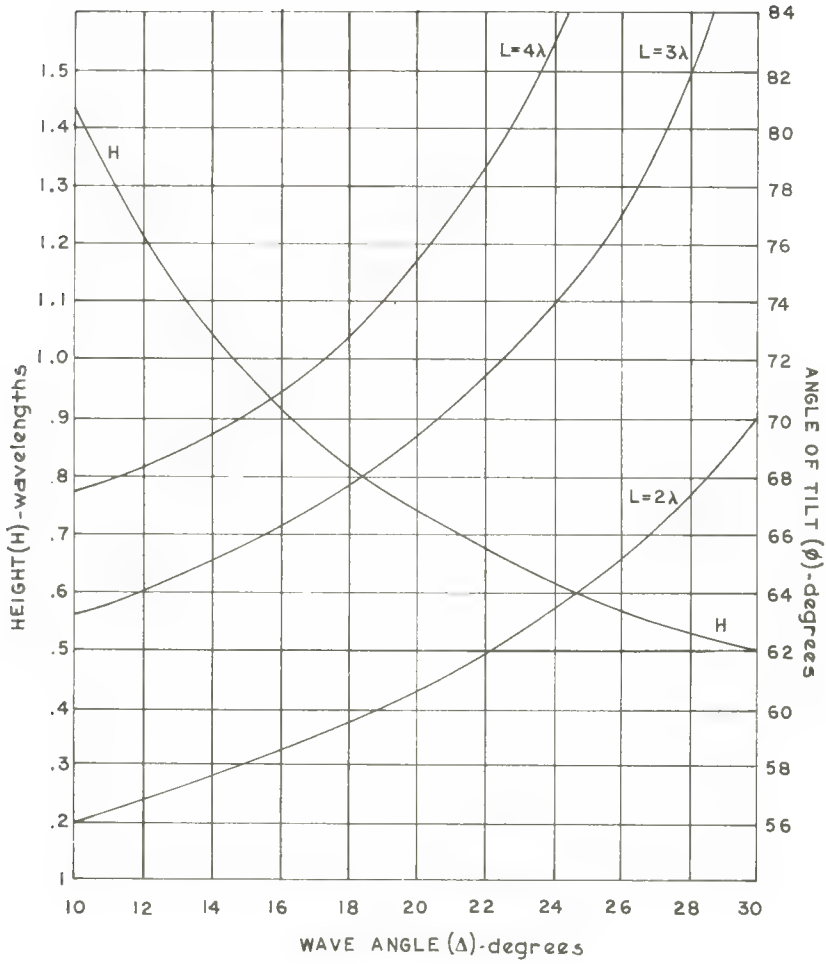

Figure A-26
The gain of a rhombic antenna increases with the length (L) of each side. However, it is usually limited to under six wavelengths because longer lengths give too sharp a directivity in the vertical plane. If you know Δ and L you can design a rhombic antenna, using the graph in Figure A-26. For instance, if Δ is to be 16 degrees and L three wavelengths, you find the intersection of these values in the $L=3$ wavelengths curve, to give a ϕ of 66 degrees on the right-hand scale. The antenna height H is determined by reading the intersection of the Δ value with the H curve, which is 0.9 wavelength on the left-hand scale.